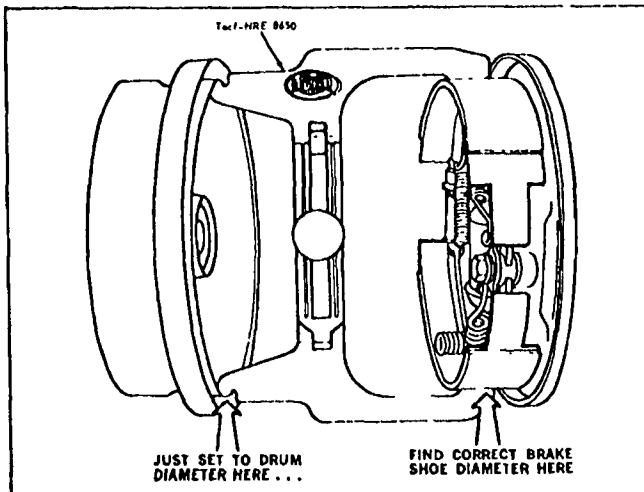

Figure 17- Measuring Brake Drum and Shoe
1. Use a tool such as Rotunda Tool IIRE 8650, (Fig. 17) to determine the inside diameter of the drum braking surface.
2. Reverse the tool as shown in Fig. 17 and adjust the brake shoe diameter to fit the gauge. Hold the automatic adjusting lever out of engagement while rotating the adjusting screw, to prevent burring the screw slots. Make sure the adjusting screw rotates freely. If necessary, lubricate the adjusting screw threads with a thin, uniform coating of high temperature molybdenum disulfide grease.